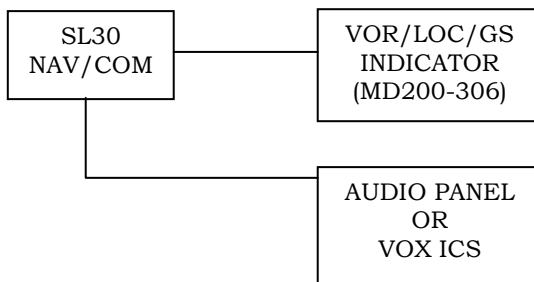

Figure 7-1. SL30 System Interface
3. The SL30 provides output to a VOR/LOC/GS Indicator, such as the MD200-306, and to either a VOX ICS or an audio panel. The system interface is shown in Figure 7-1.
4. Power to the SL30 unit is provided via the **COM** circuit breaker (CB) (5 Amp) and the **NAV** circuit breaker (CB) (2 Amp) located on the left side of the center pedestal.